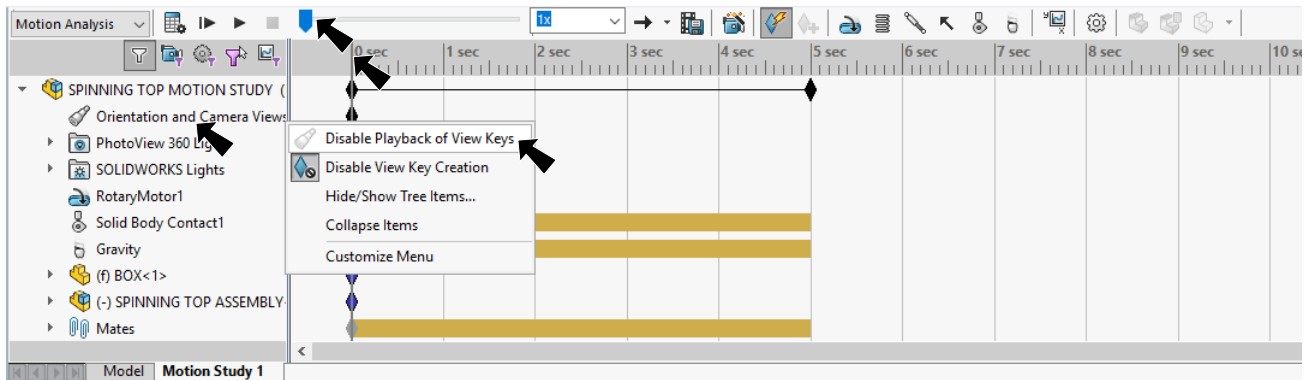

Fig. 16
Step 1. **Rewind Motion Study to 0 seconds.** To rewind, either **drag the Play Head** back to the beginning in the Motion Manager toolbar or **drag the Time Bar**, the gray vertical line back to 0 in the Timeline, **Fig. 16**. It's good practice to rewind before you make changes in the Timeline, otherwise you could create unwanted Keys.
Step 2. **Right click** **Orientation and Camera Views** in the Motion Manager design tree and click **Disable Playback of View Keys**, **Fig. 16**. Disabling View Keys will allow viewing Motion Study from any view.